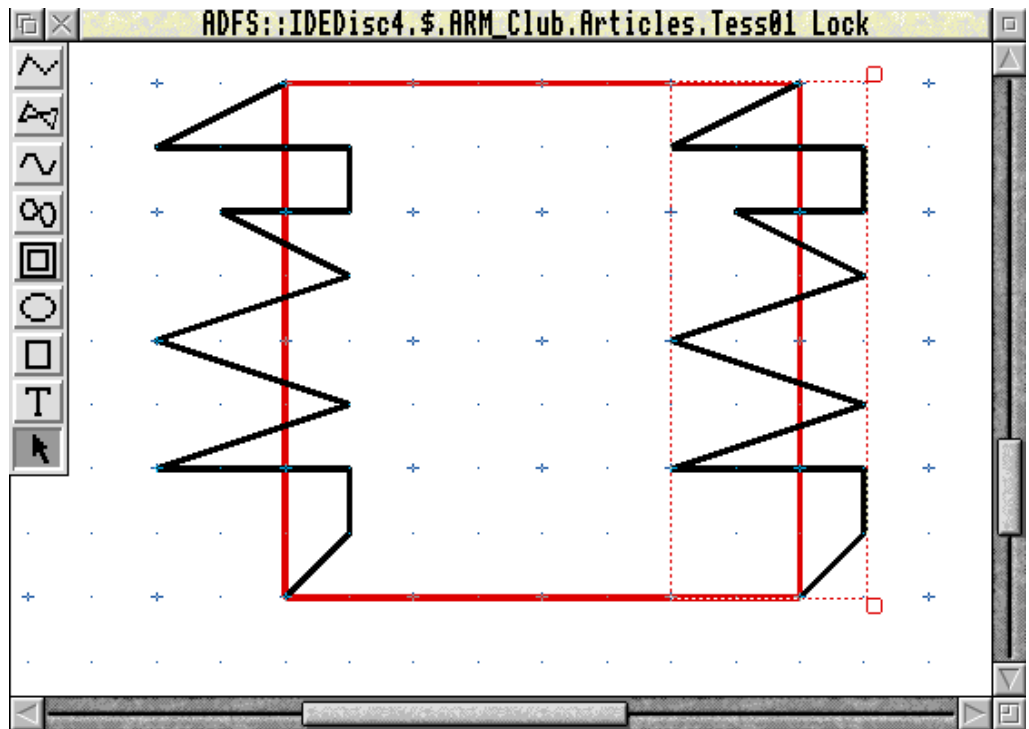

Figure 1
4. Select this path and copy it (press the copy key). Drag the copy to the opposite side of the square, positioning the ends of the lines on the corners of the square (see fig. 1).